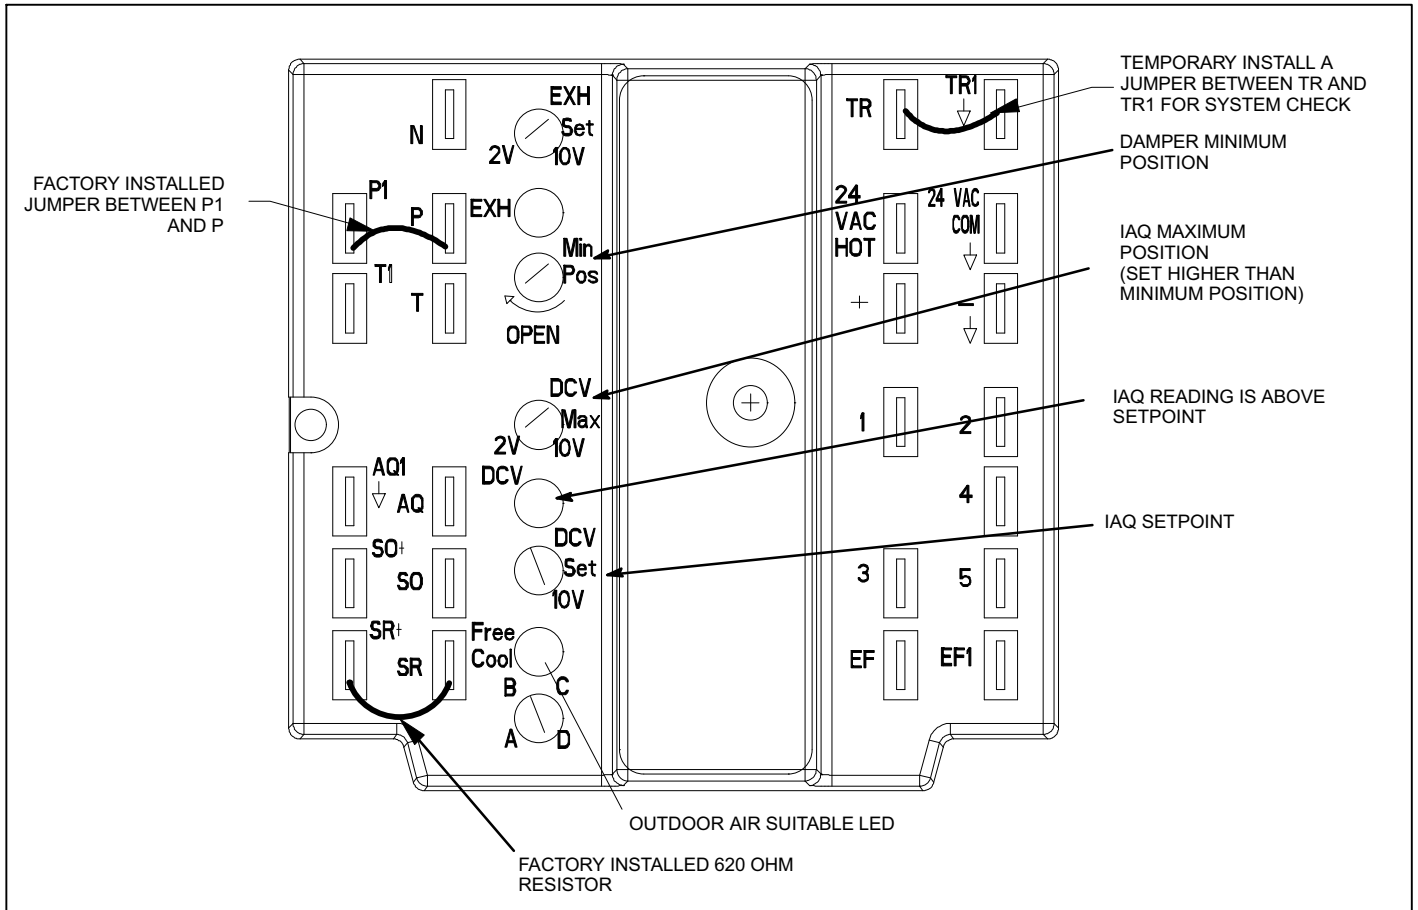

Figure 8. A6 Economizer Control
A steady green Free Cool LED indicates that outdoor air is suitable for free cooling. A steady green DCV LED indicates that the IAQ reading is higher than setpoint requiring more fresh air. See figure 8.
The **DCV SET** potentiometer is factory-set at approximately 50% of the potentiometer range. Using a standard 1-2000ppm CO₂ sensor, dampers will start to open when the IAQ sensor reads approximately 1000ppm. Adjust the **DCV SET** potentiometer to the approximate setting specified by the controls contractor. Refer to figure 8.
The **DCV MAX** potentiometer is factory-set at approximately 50% of the potentiometer range or 6VDC. Dampers will open approximately half way when CO₂ rises above setpoint. Adjust the **DCV MAX** potentiometer to the approximate setting specified by the controls contractor. Refer to figure 8.
5. Install jumper on damper motor terminal TR and TR1 (figure 8).